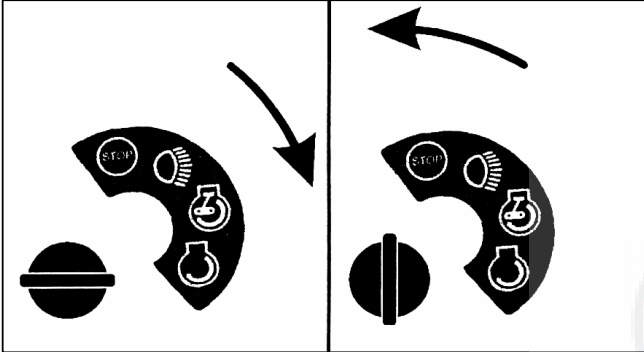

Fig. 17
- Turn the ignition key to START position (Fig.17) release it immediately when the engine has started. Continuous cranking of more that 15 seconds per minute can cause the starter to overheat. Allow the starter to cool down for two minutes after cranking of more than 15 seconds.